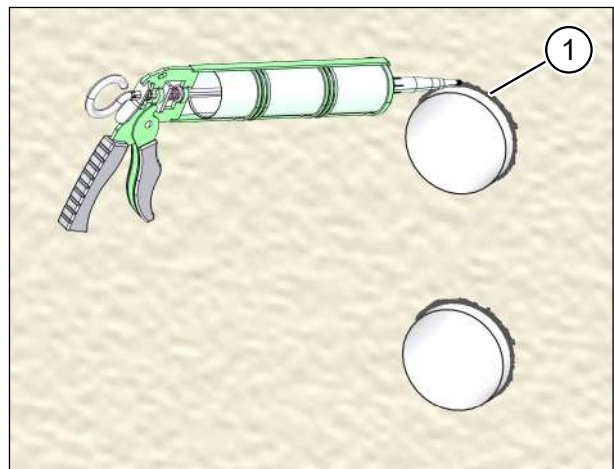

Fig. 37: Sealing ventilation pipes on the external wall
- ▶ Chamfer both pipe breakthrough edges (item 1 in Fig. 37) to roughly 5 x 45° to create enough space for the sealing joints with permanently elastic sealant.